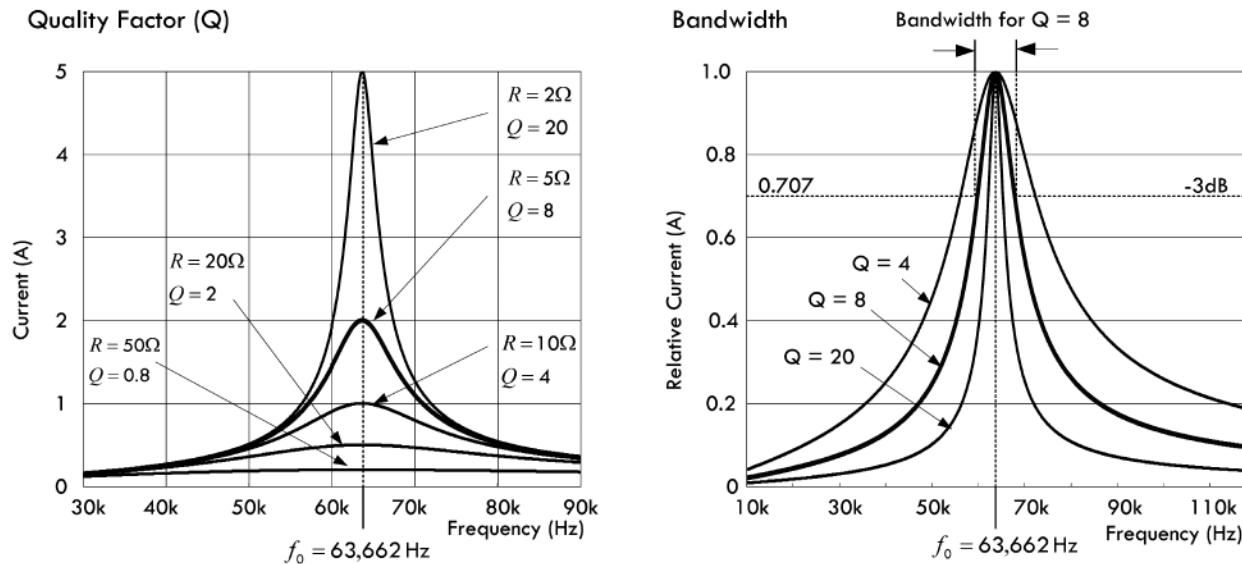

FIGURE 2.179
As mentioned earlier, the ratio of reactance or stored energy to resistance or consumed energy is by definition the quality factor  $Q$ . ( $Q$  is also referred to as the figure of merit, or multiplying factor.) As it turns out, within a series RLC circuit (where  $R$  is internal resistance of the components), the internal resistive losses within the inductor dominate energy consumption at high frequencies. This means the inductor  $Q$  largely determines the resonant circuit  $Q$ . Since the value of  $Q$  is independent of any external load to which the circuit might transfer power, we modify the resonant circuit  $Q$ , by calling it the unloaded  $Q$  or  $Q_u$  of the circuit. See Fig. 2.179.
As you can see, if we increase the resistance, the unloaded  $Q$  decreases, giving rise to broad current response curves about resonance, as shown in the graph in Fig. 2.179. With resistances of 10, 20, and  $50\Omega$ , the unloaded  $Q$  decreases to 4, 2, and 0.8, respectively. Conversely, if the resistance is made smaller, the unloaded  $Q$  increases, giving rise to a sharp current response curve about resonance. For example, when the resistance is lowered to  $2\Omega$ , the unloaded  $Q$  becomes 20.
An alternative way of expressing the sharpness of a series-resonant circuit is using what is called bandwidth. Basically, what we do is take the quality factor graph in Fig. 2.179 and convert it to the bandwidth graph in Fig. 2.179. This involves changing the current axis to a relative current axis and moving the family of curves for varying  $Q$  values up so that all have the same peak current. By assuming that the peak current of each curve is the same, the rate of change of current for various values of  $Q$  and the associated ratios of reactance to resistance are more easily compared. From the curves, you can see that lower  $Q$  circuits pass frequencies over a greater bandwidth of frequencies than circuits with a higher  $Q$ . For the purpose of comparing tuned circuits, bandwidth is often defined as the frequency spread between the two frequencies at which the current amplitude decreases to  $0.707$  or  $1/\sqrt{2}$  times the maximum value. Since the power consumed by the resistance  $R$  is proportional to the square of the current, the power at these points is half the maximum power at resonance, assuming that  $R$  is constant for the calculations. The half-power, or  $-3\text{-dB}$ , points are marked on the drawing.
For  $Q$  values of 10 or greater, the curves shown in Fig. 2.179 are approximately symmetrical. On this assumption, bandwidth (BW) can be easily calculated: